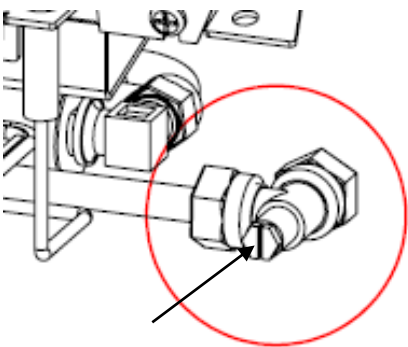

Figure 5: Inlet Pressure Test Point
1. Gas pressure at the appliance is measured via the T-piece going to the control valve (circled in figure 5).
The supply pressure test point (shown in figure 5) is measured at the burner inlet point.